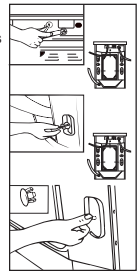

Fig.2
- Dismantle the packing bolts as shown in Fig. 2. The packing bolts are designed for clamping anti-vibration components inside of the washing machine during the transportation process. Before use: